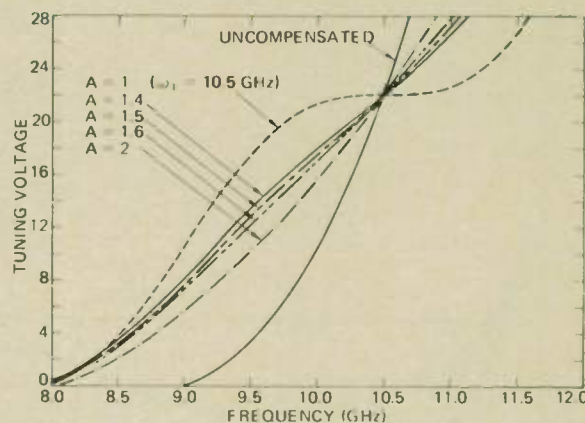

Fig. 4 Tuning curves of linearized VCO for various value of  $A$ .
By choosing the value of  $A$  to be larger than 1.0, a tuning curve is obtained which lies between the fully compensated and uncompensated curves as shown in Figure 4. For certain values of  $A$ , a reasonably high degree of linearity can be obtained over tuning ranges comparable to or larger than the overall tuning bandwidth of the uncompensated VCO. This is illustrated by the curves  $A = 1.4, 1.5$  and  $1.6$  of Figure 4. The degree of linearity of these curves can be described in two ways; (1) by specifying the ratio between the maximum and minimum differential tuning sensitivities of the curve over a given tuning range or (2) by specifying the maximum frequency deviation of the curve from a straight line expressed as a percentage of the desired tuning range. In Table I both of these methods are used to describe the degrees of linearity of several of the curves shown in Figure 4 (plus one uncharted curve,  $A = 1.55$ ). For each level of compensation two choices of slope ratio were used to determine the range of linearity. First, a slope